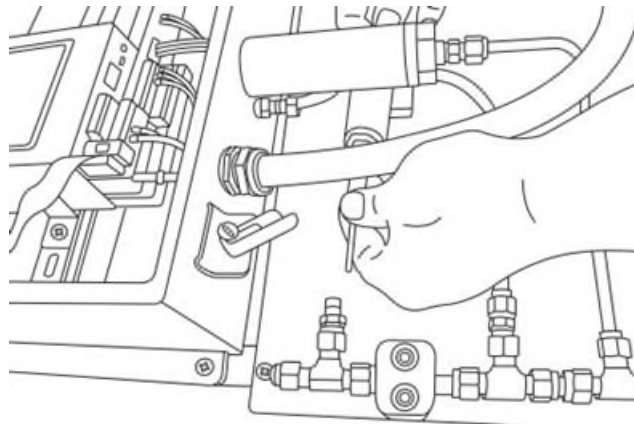

Figure 88. Remove probe from tee union (panel side)
9. Turn the conduit bracket parallel to the panel and carefully disengage the probe from the Tee union (panel side). Refer to Figure 88.